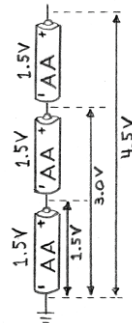

Figure 2-13.
- **Split supply:** take a line from the middle battery in a series of batteries, at the voltage level you need (Figure 2-13). This way energy isn't wasted in order to lower voltage.